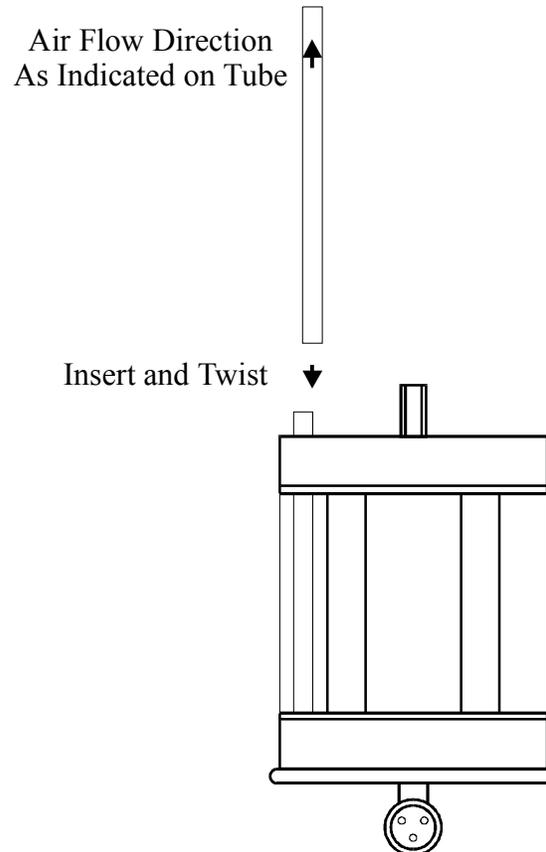

Figure 3. Tube Magazine Diagram
- 2 Insert tubes with the flow directional arrow pointing away from the magazine (Figure 3). Begin inserting tubes at location 1A/1B as indicated on the side of the magazine. Holding the tube with the short piece of rubber tubing included eases installation and removal.